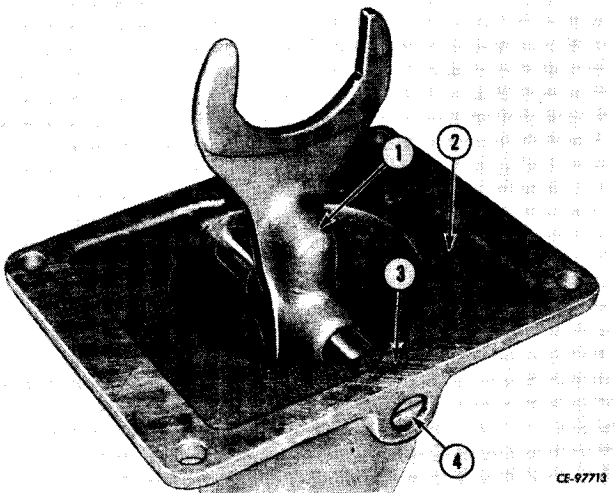

Figure 4-73
Install poppet spring and ball into bore of reverse shifting fork (1, Fig. 4-73). Using a piece of 5/8" dia rod, press down on detent ball and slide shift rail (4) through housing (2) and fork (1). Rotate shifting rail (4) until bore in rail matches bore in housing (2) and install groove pin.